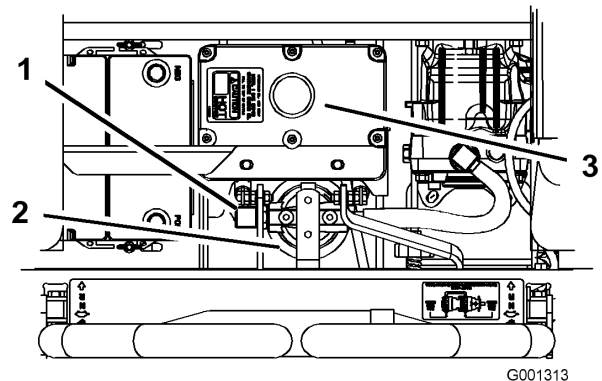

Figure 66
4. Remove the righthand hydraulic line that comes into the adapter (Figure 66).
6. Install the righthand hydraulic line to the adapter (Figure 66).